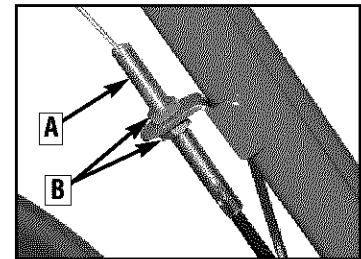

Figure 2-8
3. Attach the cable adjuster (A, Figure 2-8) to the bracket on the right-side handlebar. Use two 1/2" wrenches to loosen the two jam nuts (B) just enough to slide the cable adjuster onto the bracket. Then hand tighten the jam nuts.
5. When tension is correct, tighten the two jam nuts (B, Figure 2-8) securely.